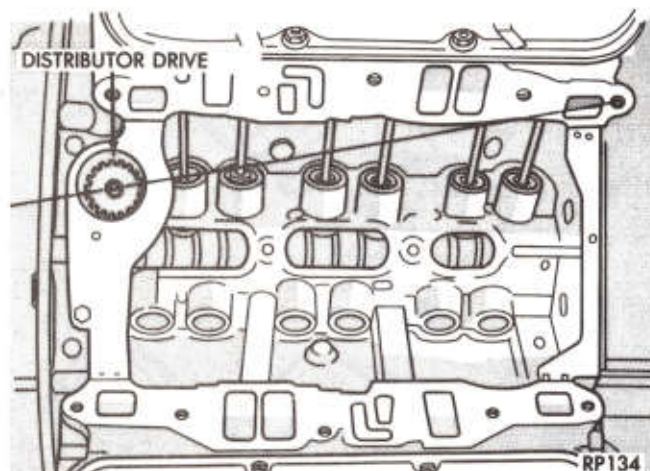

Fig. 40—Position of Installed Distributor Drive Gear
(1) Rotate crankshaft until No. 1 cylinder is at top dead center on the firing stroke.
(2) When in this position, the timing mark on vibration damper should be under ("O") on the timing indicator.
(3) Coat shaft and drive gear with engine oil. Install the shaft so that after gear spirals into place, it will index with the oil pump shaft, so slot in top of drive gear will be aligned in a direction (forward) towards left front intake manifold attaching screw hole (Fig. 40).